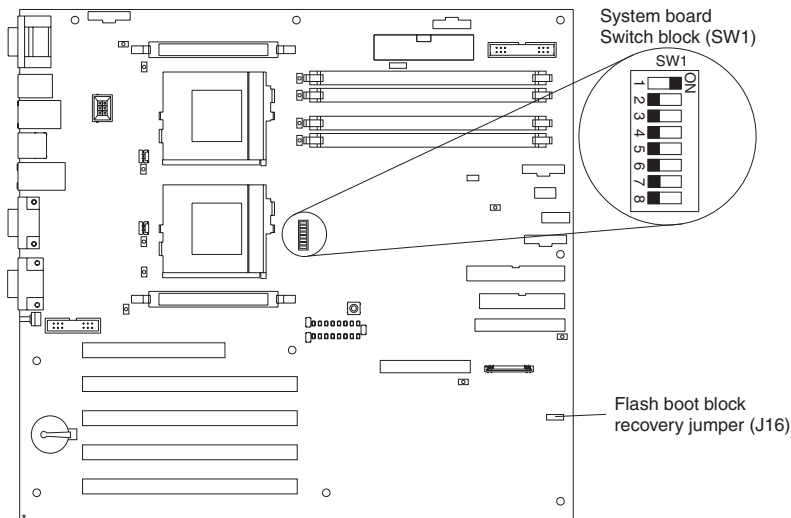

Figure 2. Boot block jumper location
2. Locate the boot-block jumper block (J16) on the system board. See Figure 2 on page 72.
Figure 2 shows the location of the boot block jumper on the system board.